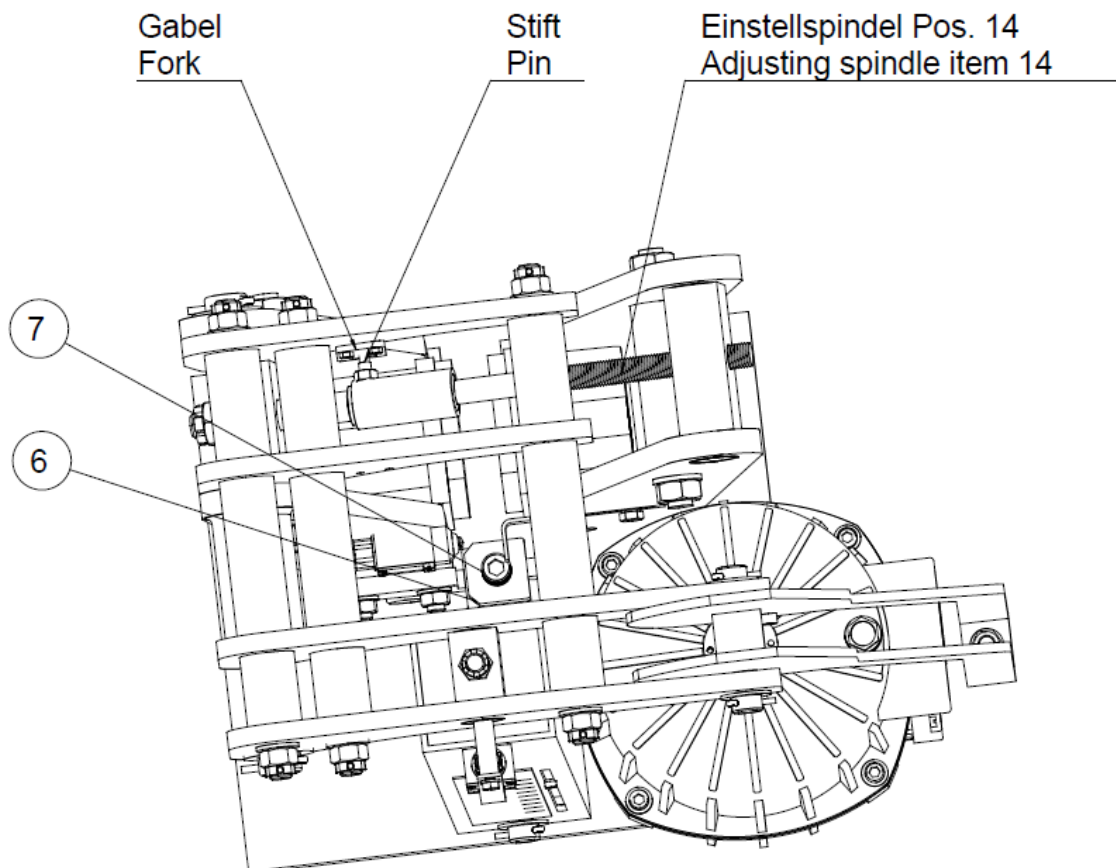

Fig. 8.3
There do exist two different versions of the brake. FEM with manual adjustment pad wear and FEA with automatic adjustment of the pad wear. The FEA version is clearly recognizable. The adjust spindle item 14 has a pin at the side, see Fig. 8.3.
- For the purpose of changing the brake pads, loosen the both screw item 3 both side loosen item 6 and turn the adjusting set screw item 7 max. revolutions back.
- Loosen the fork Fig. 8.3 and turn the adjusting spindle item 14 back until you have enough free space to mount the new brake pads.
- Now you can loosen srews item 3 the old brake pads and you can move the brake pads topward for easy exchange. The new pads mount in the same way fix the item 3
- Reassemble the fork Fig. 8.3 and activate the brake multiple times the automatic process will start and adjust the clear distance between the brake pads of approx. 3 mm.
- It is achieved by means of a self-adjusting mechanism with a ball transfer unit that provides for an equal clearance of the linings from the disc surface **INSTALLATION:** At set brake, adjust the set screw item 7 until it gets in touch with the ball. Afterwards, lock the set screw item 7 by means of its grub screw item 6.